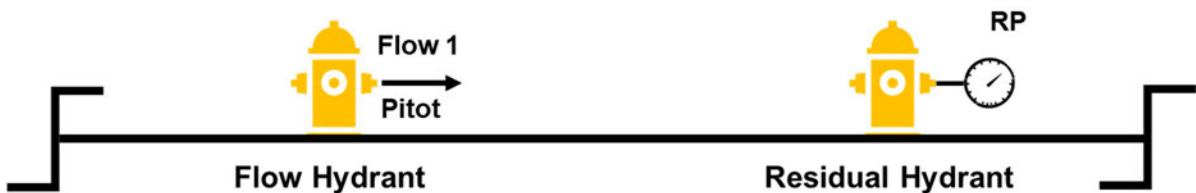

Figure 6-10 One-Flow Pitot Pressure and Residual Pressure Readings Schematic
Step 2A: First perform the flow test with one outlet (*Figure 6-10*):